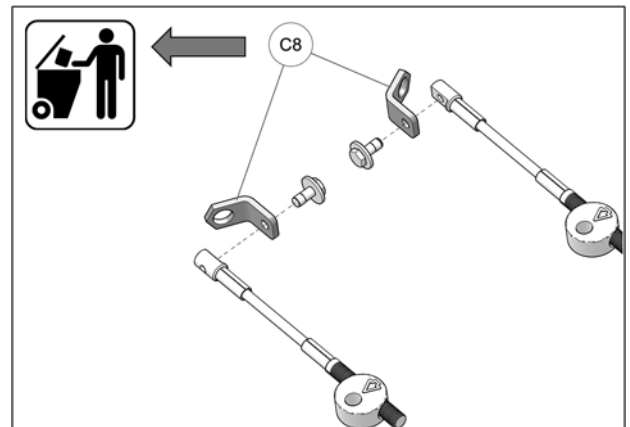

Fig. 11
7. 2015 and later front track systems: Stabilizing arms have an integrated Steering Limiter holding plate. It is not necessary to install the holding plates (C8) provided in the Steering Limiter kit. See Fig. 11